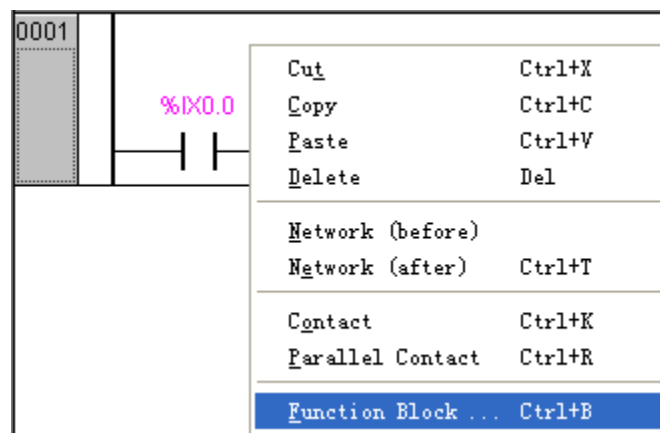

Figure 3-6-3 Programming Steps (3)
- Right click after contact “%IX0.0”, then select “Function block”, as shown in figure 3-6-3.